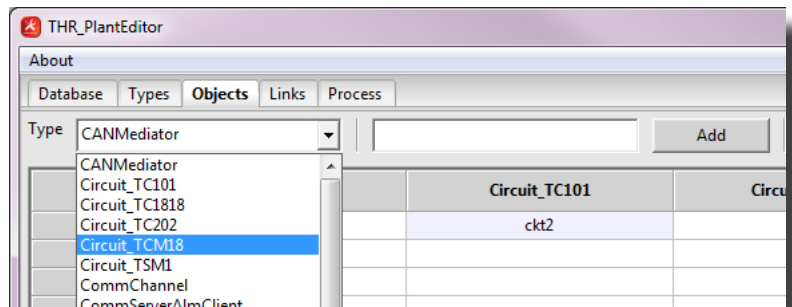

Figure 37: Plant Editor - Select a Type
- Select the type from the dropdown list on the Objects page and Input the name of the new object in the textbox next to the dropdown list, and click "Add" (Figure 37).